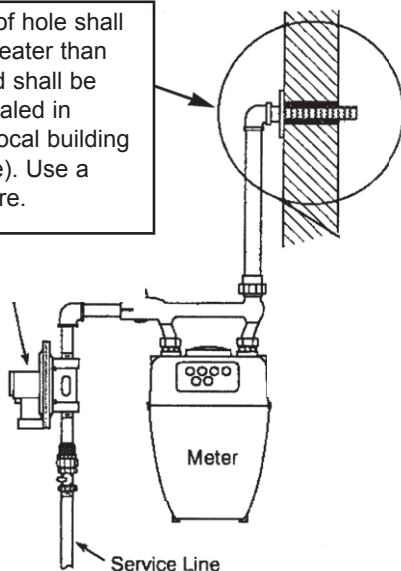

Figure: 4-23
1. Meters which depend on the service and house piping for support shall not be directly connected to the flexible piping. Instead, use a meter Stub-out fitting with steel pipe for the outdoor portion of the connection. For mounting of meters, all fastener locations should be used when installing the flange or mounting plate. Figure: 4-23 and 4-24.
Prior to installing **TracPipe® CounterStrike®** directly to a meter, ensure that the local utility allows this practice and meter is independently supported as some utilities have regulations specifying meter attachments. Any exposed sections of stainless steel piping must be wrapped with a self-bonding silicone tape. This is especially important with masonry construction. Figure: 4-23—A sleeve is required for **TracPipe® CounterStrike®** penetrations of masonry construction and recommended for wood frame construction.